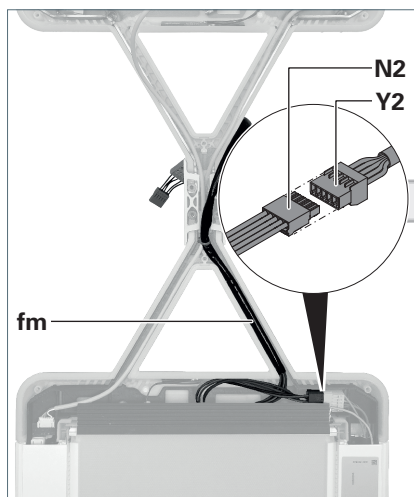

Fig. 19: Connecting the supply cable.
9. Lay the supply cable **fm** of the stranded wire set into the supporting arm of the luminaire head 2, see Fig. 19.